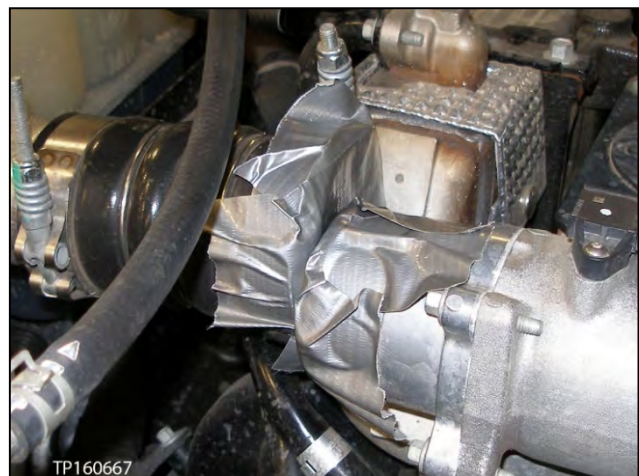

Figure 38
26. Loosen the air outlet hose clamp nut, and then separate from the intake manifold inlet (see Figure 38).